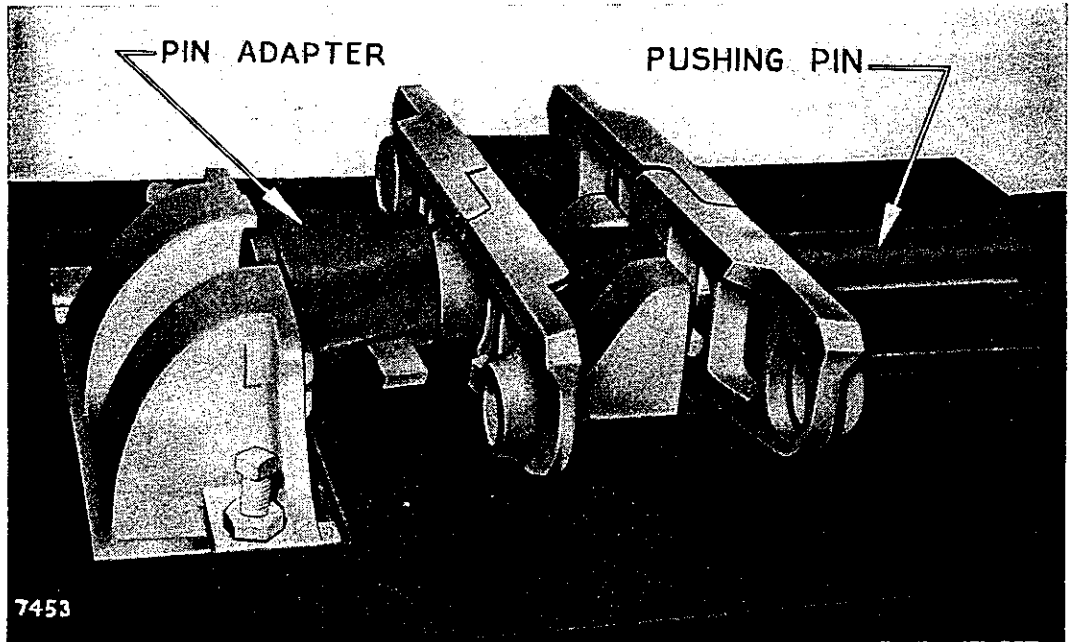

FIG. 1 REMOVING LINK
1. Press out the track pins using a pin adapter and bushing pin (Fig. 1).